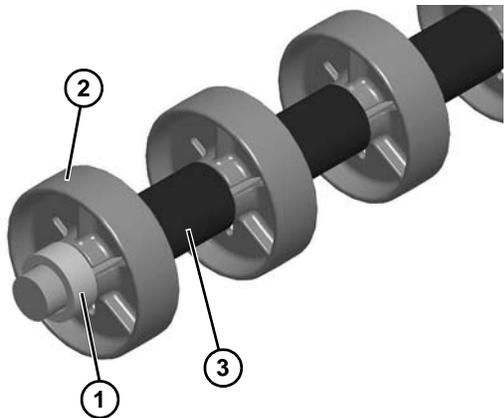

Figure 72
- Remove spacer (**Figure 72, item 1**), rollers (**Figure 72, item 2**) and tube spacers (**Figure 72, item 3**) from shaft.